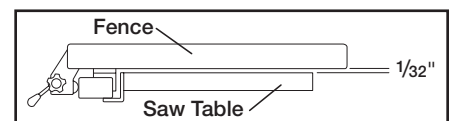

Figure 4
1. Lightly engage the main fence lock. Sight along the bottom edge of the fence face and compare the distance between the table surface and the bottom of the fence face. This should be a constant  $\frac{1}{32}$ " front to back. Figure 4.